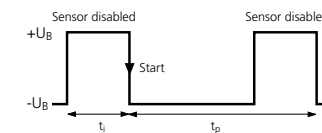

Fig. 3: External synchronization signal
- Apply a square-wave signal to the sync-input with pulse width t_i and repetition rate t_p (Fig.3 and technical data).